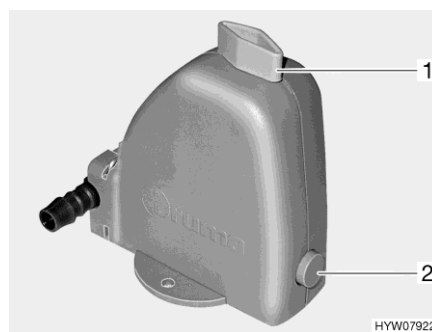

Fig. 53 Safety/drainage valve
The heater is equipped with a safety/drainage valve (Fig. 53). The safety/drainage valve prevents water for the production of hot water from freezing, when there is frost and the heater is not switched on.
- Close the safety/drainage valve. Turn the knob (Fig. 53,1) perpendicular to the safety/drainage valve and push the push button (Fig. 53,2) in.
- Open the safety/drainage valve. To do this turn the knob (Fig. 53,1) parallel to the safety/drainage valve. The push button (Fig. 53,2) jumps out. The domestic water container is emptied to the outside through the safety/drainage valve.